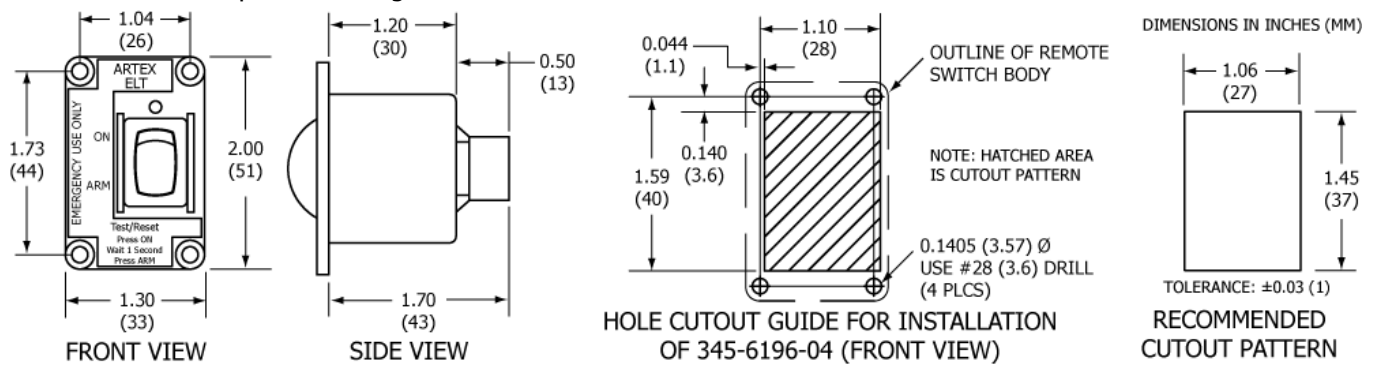

Figure 18 Remote Switch Outline and Dimensions
- 3) The switch assembly requires a space approximately 2.0 x 1.3 in. (51 x 33 mm) on the panel surface and behind the panel. See Figure 18.
- 1) Mark the cutout on the cockpit panel. See Figure 18.